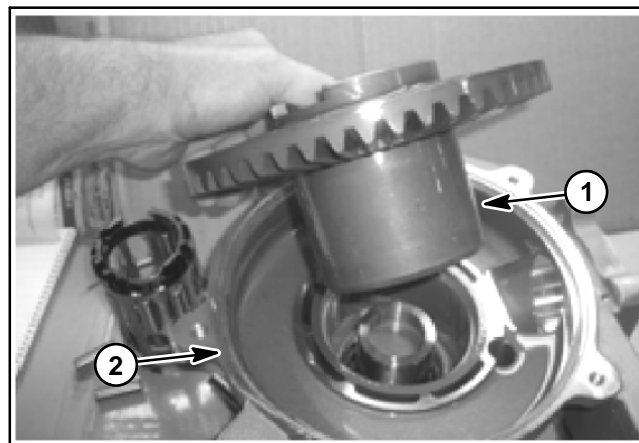

Figure 17
9. Carefully lift the ring gear out of the gear case (Fig. 17). Inspect ring gear teeth for any damage or abnormal wear.